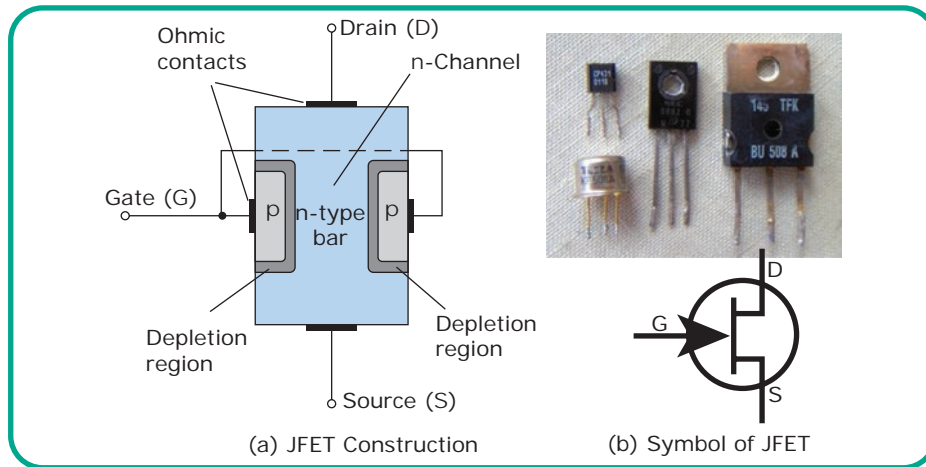

Figure 5.6 Construction of N-Channel JFET and its Symbol
Construction: Figure 5.6 shows the construction of n-channel JFET and its symbol. It consists of a uniformly doped N-type semiconductor bar made of silicon. On both sides of this N-type semiconductor bar, two heavily doped P-type regions are formed by diffusion. The two P-regions are internally connected and a single lead is taken out, which is called Gate (G). Ohmic contacts are made at the two N-type semiconductor bar. One lead is called as Source (S) and the other as Drain (D). These two terminals may be interchanged. The source (S) is a terminal through which the majority carriers (electrons in the N type bar) enter the bar. The drain (D) is a terminal through which the majority carriers leave the bar.
Since the two P-regions are heavily doped and N-type bar is lightly doped, two depletion layers are formed in the N-type bar as shown in Figure 5.6. The region between the two layers is called channel. The majority carriers move from source to drain through this channel. The